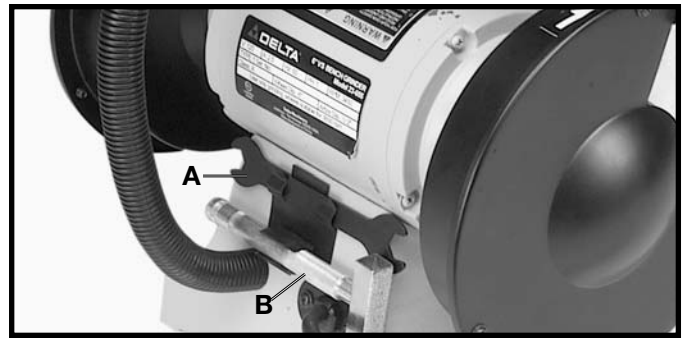

Fig. 17
The open end wrench (A) and the wheel dresser wrench (B) can be stored in the wrench holder located at the rear of the grinder as shown in Fig. 17.